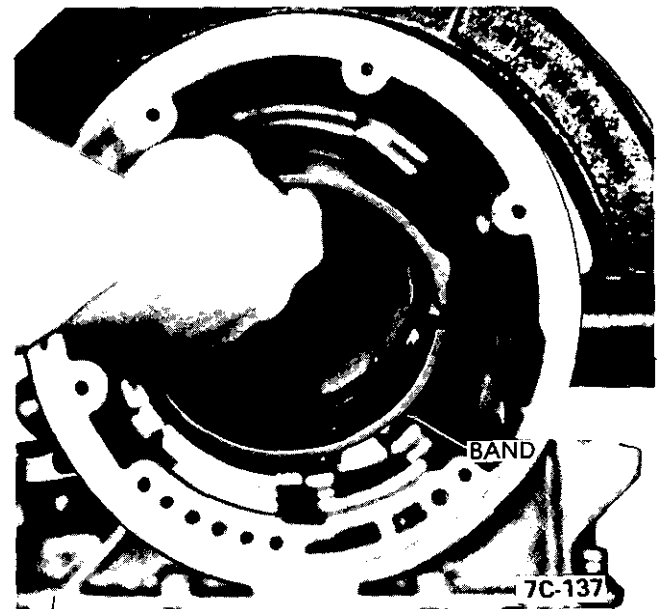

Figure 7C-137
4. Remove needle thrust bearing and race from rear of case. See Figure 7C-135.